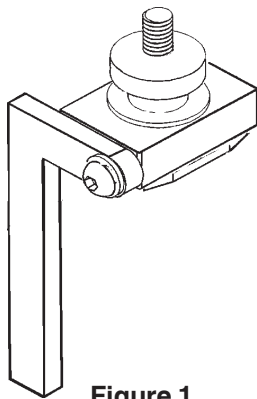

Figure 1
2. Assemble the T-bolt assy. (9) up through the stop block (3), secure using the knob (2) and washer (6). See complete assembly, as shown in Figure 1.